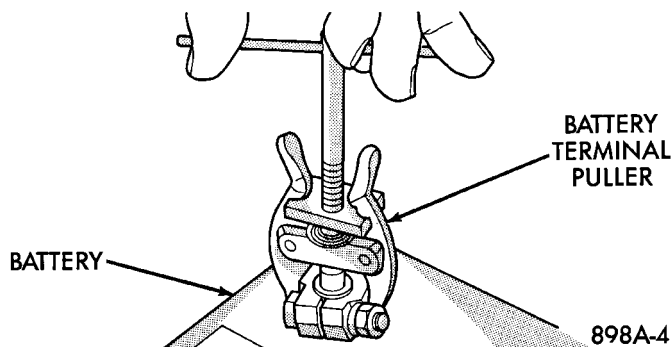

Fig. 5 Disconnect Battery Negative Cable
- (1) Verify that all electrical accessories are OFF.
- (2) Disconnect battery negative cable (Fig. 5).